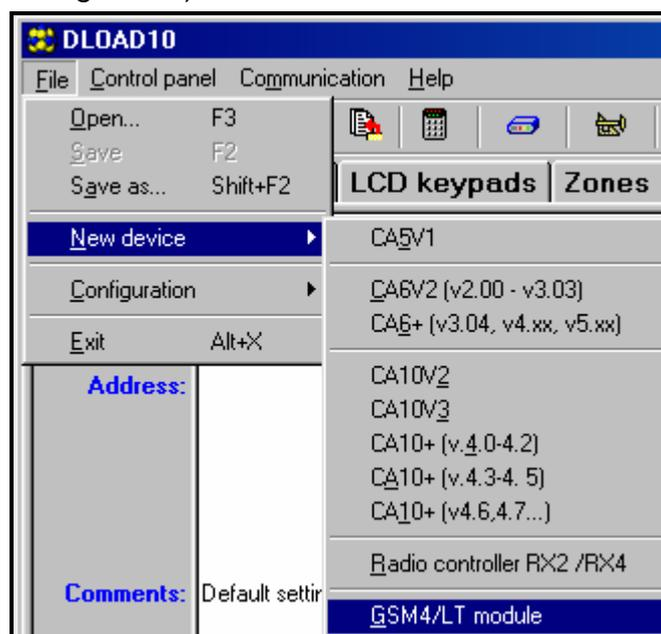

Figure 11.
2. Open the window with module data by selecting **File**→**New device**→**GSM4/LT module** in the program menu (see figure 11).